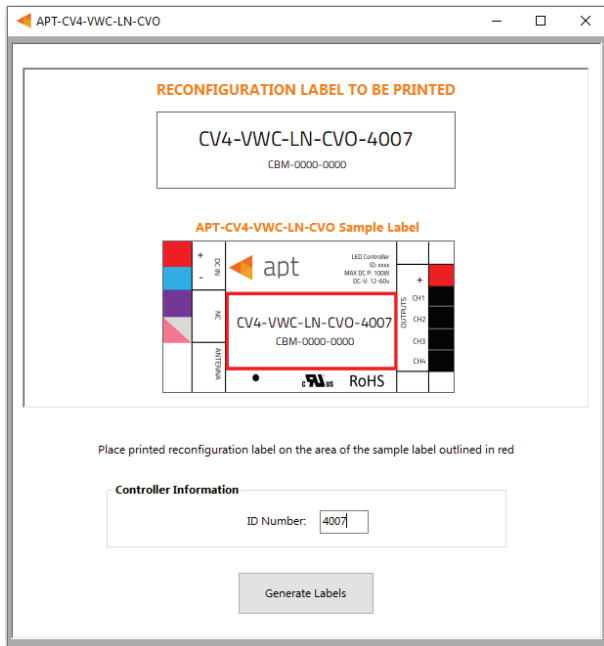

Figure 12: Label Generation window
- 2 Input the 4-digit **ID Number** written on the original label (shown in Figure 12). The ID Number indicates the production build of the APT Controller.